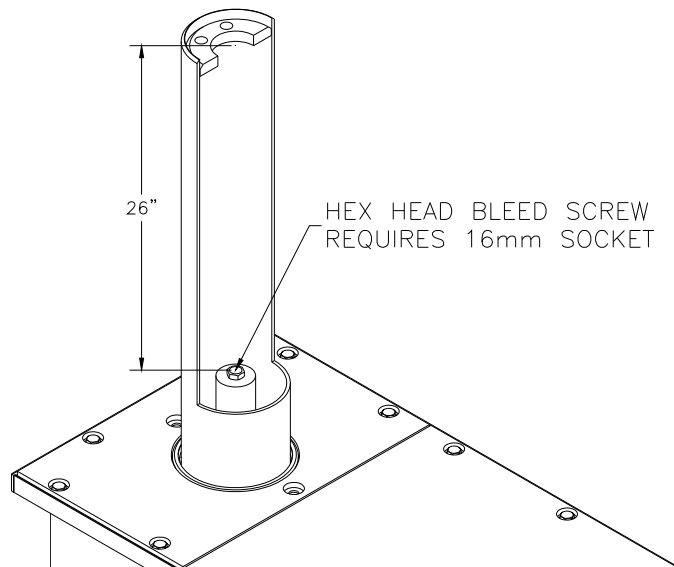

Fig. 9
22. Finish Energize the power unit to run the cylinder up about 3 feet. Loosen the bleed screw at the top of each cylinder, and allow the trapped air to escape. Bleed both cylinders until clear oil is seen. Refer to **Fig. 9**. Raise the lift to full stroke and continue to run the power unit for another 10 seconds to check for hydraulic leaks.